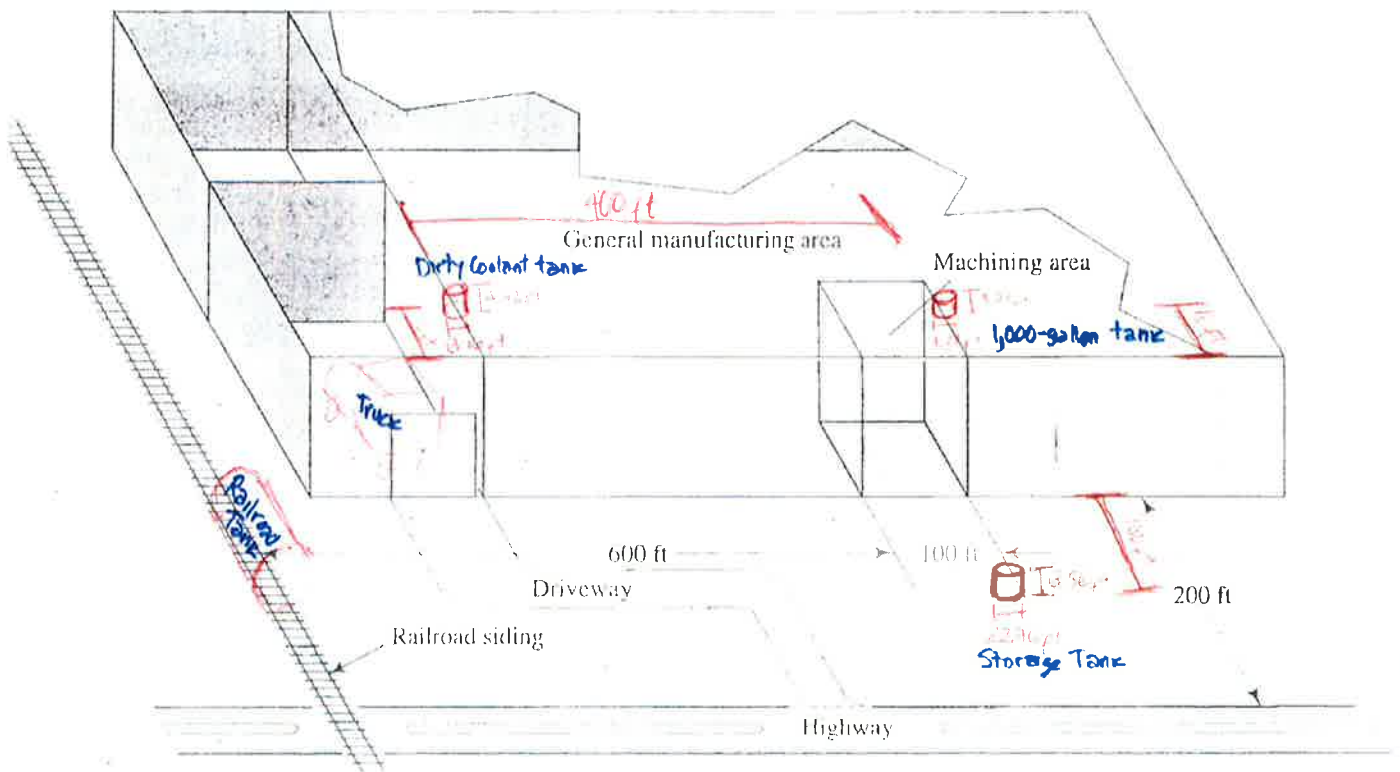

FIGURE 1. Plot plan of a hypothetical factory building for the design problem.
After the previous engineer left the consulting company, you got hired to continue his work on a project described on the next pages. The previous engineer designed the tanks and decided their locations (sketched in figure 1). You are in charge now of designing the pipeline of the system taking the coolant from the railroad tank to the storage tank (PLEASE, note that you are in charge of only one system). **The transfer must occur in not less than 6 hours.** The specific tasks for this design you are in charge of are:
1. Specify the layout of the piping system (make a hand drawing of it). For the pipe layout consider the distances shown in figure 1 and some of the requirements (such as frost line) in the project description. Propose the material type of the pipe and its diameter. From the layout get the pipe length required. Please remember that for a pumped system, the pipe size is chosen with the critical velocity criteria and the desired flow rate. Remember the pipe size requirement by the company.
The layout of the planned facility is shown in figure 1. The following data, design requirements, and limitations are given.